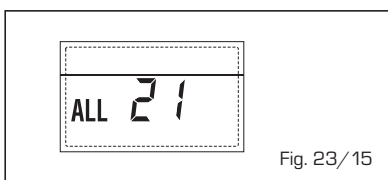

Fig. 23/15
- **SAFETY THERMOSTAT INTERVENTION SECOND MIXED ZONE "ALL 22" (fig. 23/16)**